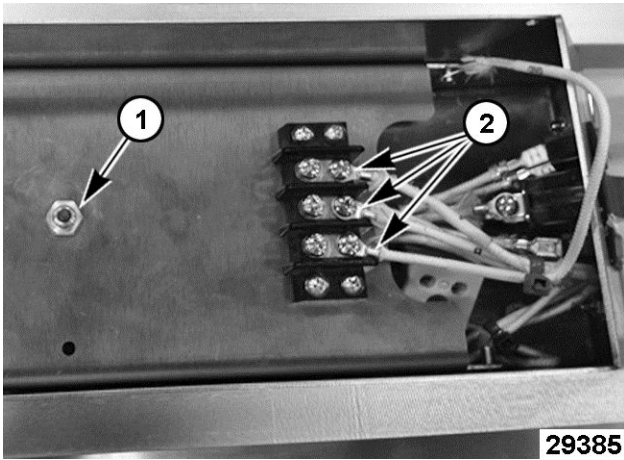

Fig. 21
3. Remove mounting nut (1, Fig. 21) securing high limit to control box mounting shelf.
- B. Note heating element wire locations (2, Fig. 21) and disconnect from terminal strip.